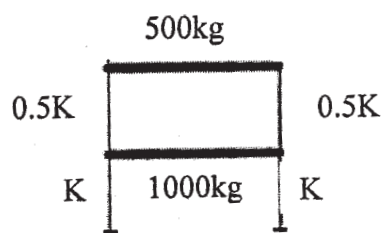

Figure 4.1
- Q4)** For the two degree freedom system shown in Figure 4.1, obtain natural frequencies and amplitude ratios. Assume $K = 20\text{kN/m}$. [16]